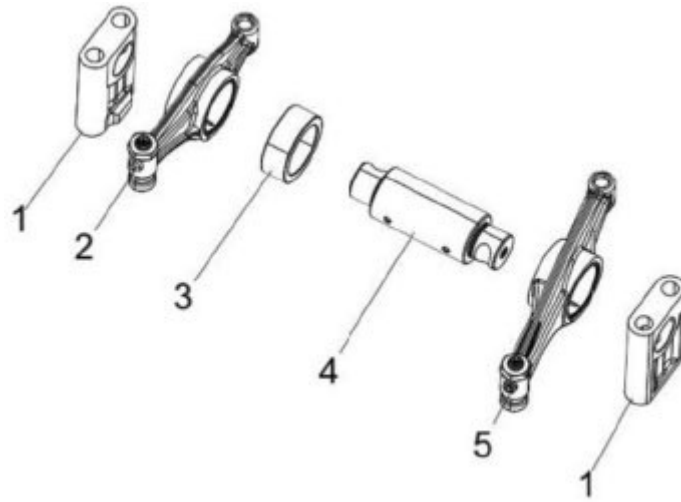

Figure 47. Rocker Arm Assembly
5. Remove the rocker arm support (Figure 47, Item 1).
6. Slide the exhaust rocker arm assembly (Figure 47, item 2) out of the rocker arm shaft assembly (Figure 47, item 4), rocker arm shaft sleeve (Figure 47, item 3), and intake rocker arms assembly (Figure 47, item 5).